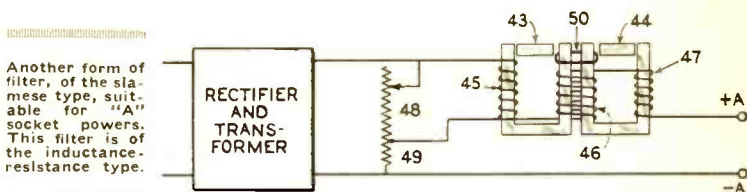

FIG. 10
Another form of filter suitable for "A" Socket Powers is shown in Fig. 10. This mesh is also of the inductance-resistance type but has the extraordinary property that whereas it is neither a bridge nor employs resonant circuits, it has a point of infinite impedance with a finite but high impedance at all other frequencies.
The filter circuit of Fig. 10 drawn in general form for the purpose of analysis.
quantity L_2 represents the inductance due to the flux of the coil 45 which does not link with the coil 46. L_{20} representing the inductance in coil 45 due to the flux which threads the entire core 43. Circuit III comprises resistance R_2 and the closed resistance R_3 together with the inductances L_3 and L_{30} . L_{30} represents the inductance due to the flux in core 43 acting on coil 46 and L_3 is the inductance due to the entire flux in core 44 acting on coils 46 and 47. The mutual inductance between L_{20} and L_{30} is represented by the quantity M . The copper band 50 in Fig. 10 represents a fourth circuit, designated IV, which has inductance L_4 , resistance R_4 and mutual inductance with L_{20} , designated M_2 , and with L_{30} , designated M_3 . It will be noted that this fourth circuit is located entirely outside of the direct line of either A.C. or D.C. propagation. This, however, in no way invalidates the analytical method and we may, as before, write four inter-related equations for the currents in each of the elementary circuits, solve them as simultaneous, and convert the complex quantities appearing in the resulting equation into absolute values. When this is done we come out with Equation (10)
copper band 50 (Fig. 10) the whole numerator will remain very small at all frequencies and the device will operate substantially as a "blanket filter."